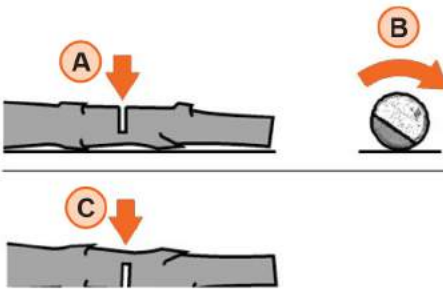

Figure 17
Cut halfway into the trunk ①, then turn around ② and saw through from the opposite side ③ (see Figure 17). When sawing through the trunk, ensure that the saw rail does not touch the ground!